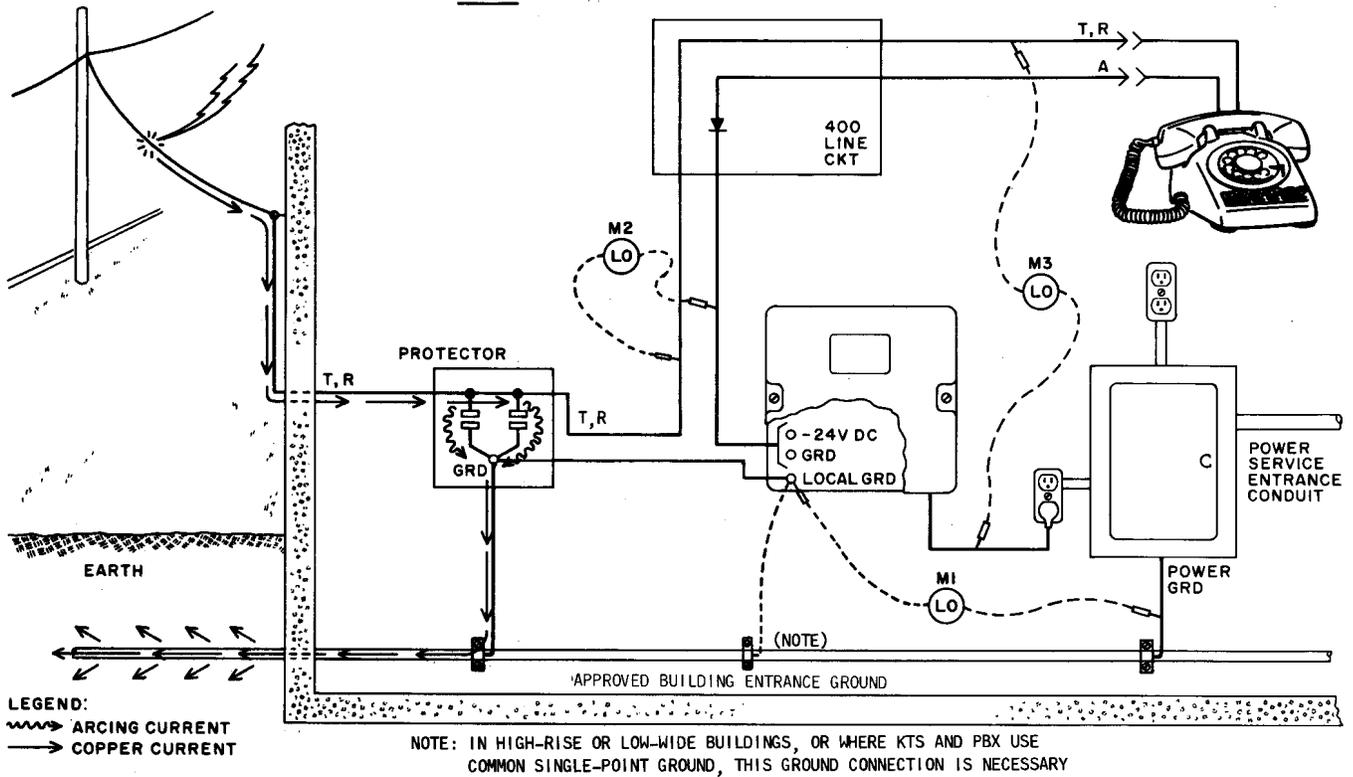
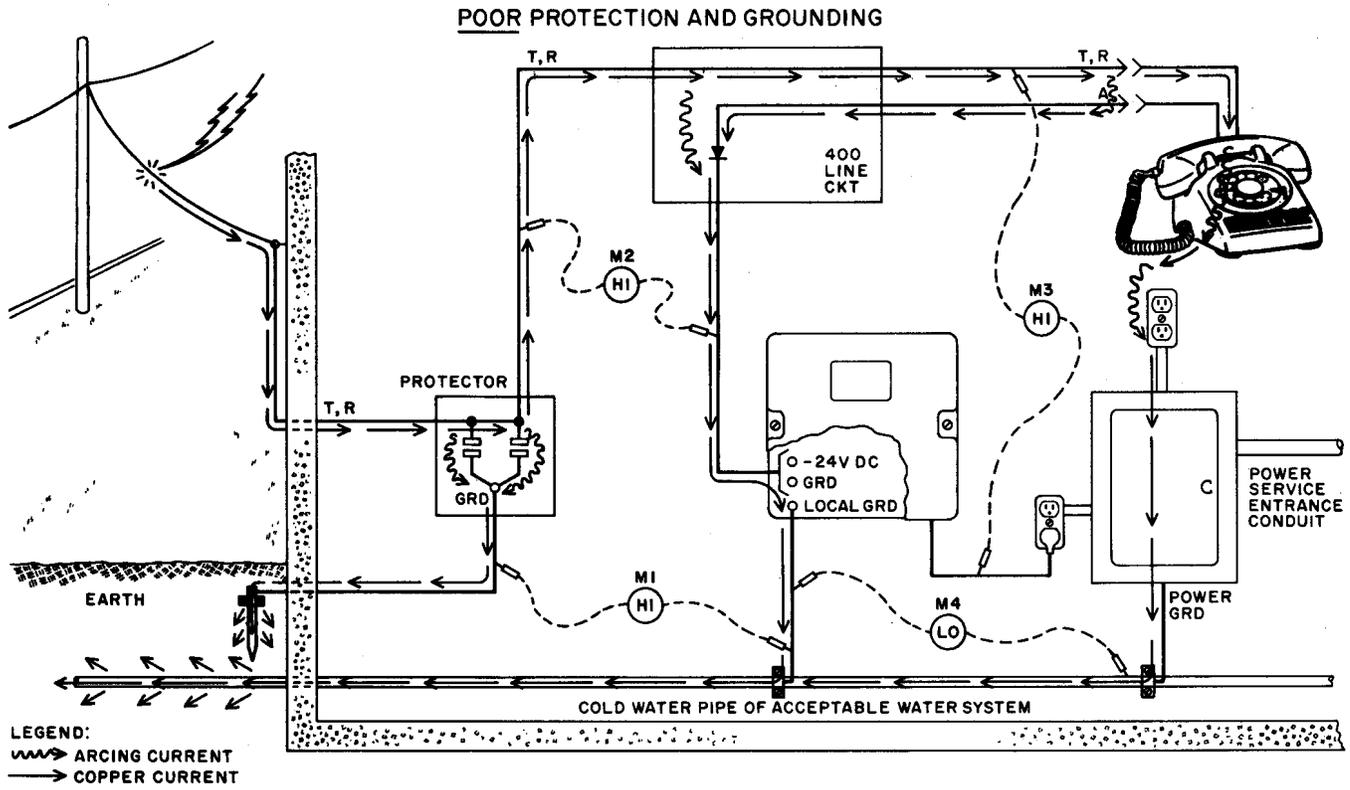

Fig. 6—All Grounds Bonded to Cold Water Pipe
Fig. 7—Protector Ground Bonded to Ground Rod and KTS Power Supply and AC Power Grounds Bonded to Cold Water Pipe
4. OPERATION OF A GOOD PROTECTION SYSTEM (Fig. 6)
4.02 A typical lightning surge entry into a telephone line associated with a properly protected KTS is shown in Fig. 6. The arrows show the directions in which current can flow from the entry point to earth ground. The path toward the CO is usually high impedance due to the cable length involved, and only a relatively small current flows in that direction. High-current levels do flow, however, toward the telephone station since the impedance is significantly lower. The current flows through the drop wire and across the carbon block air gaps to the water pipe. The current flow continues through the pipe system until the energy is finally dissipated into the earth.
PROTECTOR GROUNDED TO GROUND ROD (Fig. 7)
5.01 An installation similar to the one shown in Fig. 6 is illustrated in Fig. 7, except a ground rod rather than a water pipe, was provided as the protector ground, and there is no bonding between grounds in Fig. 7. The difference between these two installations might seem trivial at a glance, but a more detailed evaluation of the possible effects will demonstrate that a vast difference in protection capability can actually exist.
5.02 As was the case in Fig. 6, the protector blocks will operate and surge currents will flow toward earth ground by way of the protector ground. However, because the current must flow through the ground wire and ground rod, a high-voltage difference (possibly several kilovolts) can develop between the protector ground terminal and the water pipe system (meter M1). Since the line side of the protector is at approximately the same potential as the ground side while the carbon blocks are conducting, the telephone line potential (M2) above the power supply local ground (which is connected to the water pipe ground) will be almost the same as that indicated by M1. Meter M3 shows that the same potential difference also exists between the telephone line and the commercial power leads.
5.03 The arrows show how current can flow toward the water pipe ground if sufficient potential is present to arc from the telephone line to another circuit path. For example, an arc can develop between the telephone leads and the power supply leads on a 400-type KTU printed wiring board at about 2 kilovolts. Therefore, in the case illustrated by Fig. 7, KTU component damage is most likely to occur as a result of surge current flow from the telephone line to the power supply ground (cold water pipe) through KTU components.
5.05 Figure 7 also illustrates that an arc path can develop between the telephone set and nearby